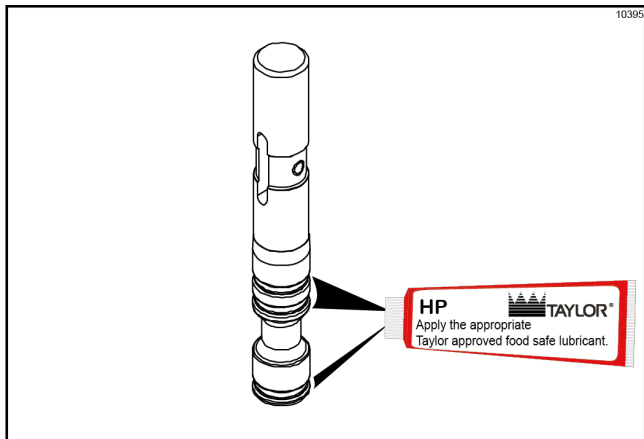

Figure-135
- If the parts are in good condition, assemble the draw valve. Slide the three O-rings into the grooves on the draw valve and lubricate. (See Figure-135.)